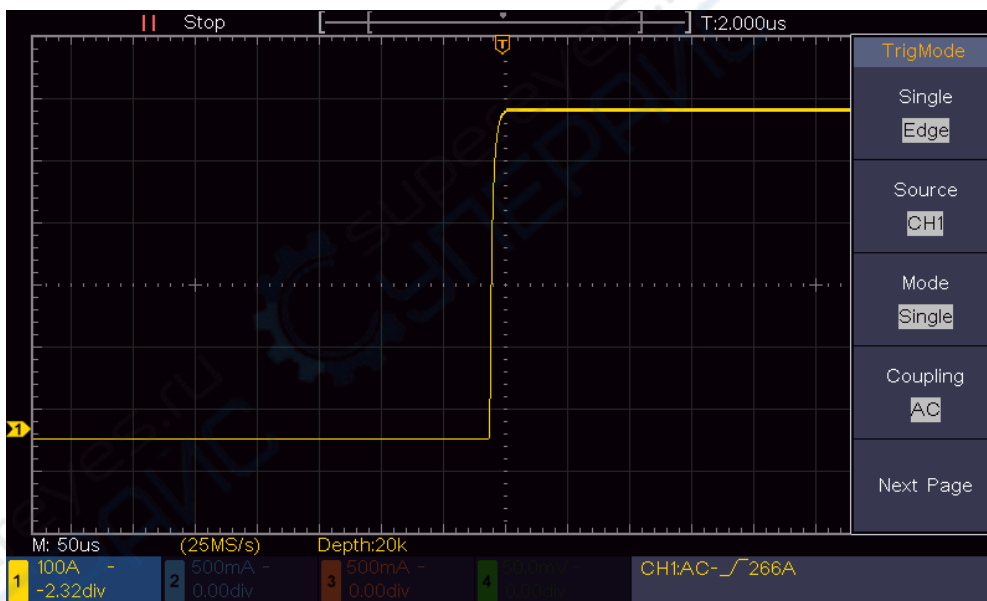

Figure 6-3 Capturing a Single Signal
- (1) Set the probe menu attenuation coefficient to 10X and that of the switch in the probe to 10X (see "*How to Set the Probe Attenuation Coefficient*" on P11).
- (2) Adjust the **Vertical Scale** and **Horizontal Scale** knobs to set up a proper vertical and horizontal ranges for the signal to be observed.
- (3) Push the **Acquire** button to display the right menu.
- (4) In the right menu, select **Acqu Mode** as **Peak Detect**.
- (5) Push the **Trigger Menu** button to display the right menu.
- (6) In the right menu, select **Single** as **Edge**.
- (7) In the right menu, select **Source** as **CH1**.
- (8) In the right menu, select **Coupling** as **DC**.
- (9) In the right menu press **Next Page**, select **Slope** as  (rising).
- (10) Turn the **Trigger Level** knob and adjust the trigger level to the roughly 50% of the signal to be measured.
- (11) Check the Trigger State Indicator on the top of the screen, if it is not Ready, push down the **Run/Stop** button and start acquiring, wait for trigger to happen. If a signal reaches to the set trigger level, one sampling will be made and then displayed in the screen. By using this approach, a random pulse can be captured easily. For instance, if we want to find a burst burr of high amplitude, set the trigger level to a slightly higher value of the average signal level, push the **Run/Stop** button and wait a trigger. Once there is a burr occurring, the instrument will trigger automatically and record the waveform during the period around the trigger time. By turning the **Horizontal Position** knob in the horizontal control area in the panel, you can change the horizontal triggering position to obtain the negative delay, making an easy observation of the waveform before the burr occurs (see *Figure 6-3*).